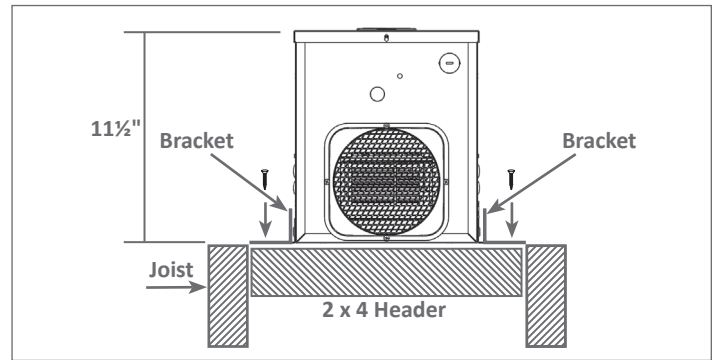

Figure 2 - Mounting ventilator to a joist
- b. Mounting to a Joist: Install two, 2" x 4" headers (not included) between the joists to support the ventilator. Position the ventilator housing on the headers and secure the mounting brackets with screws (not included) to the headers (Figure 2).